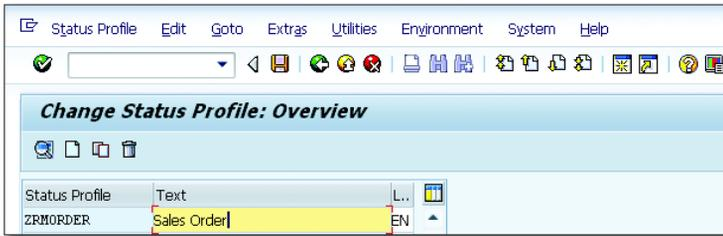

Figure 4.76 Status Profile
1. Define the status profile for the user status by navigating to CUSTOMER RELATIONSHIP MANAGEMENT • TRANSACTIONS • STATUS MANAGEMENT • DEFINE STATUS PROFILE FOR USER STATUS. Create a status profile for your own transaction, which we refer to as the user status (see Figure 4.76). In the status profile, you can perform the following activities: